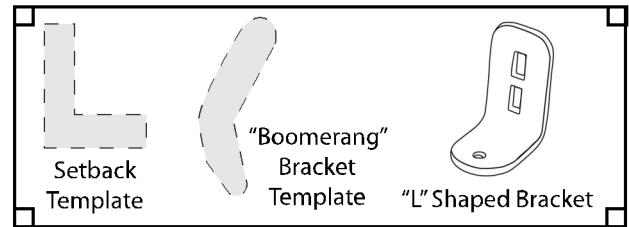

Fig. 1
2. Find the proper setback for your operator (from previous page). Hold the lower “L” shaped bracket along with the boomerang bracket template against the post near the hinge. [See Fig. 1]